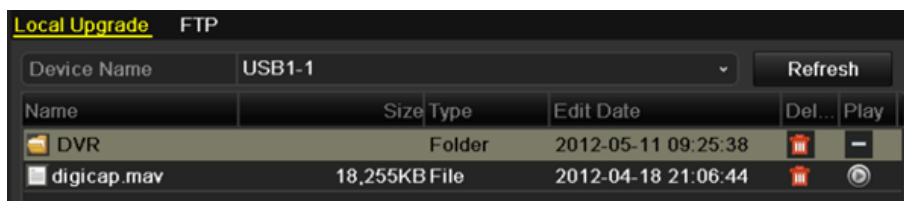

Figure 12. 12 Local Upgrade Interface
3. Click the **Local Upgrade** tab to enter the local upgrade menu, as shown in Figure 12. 12